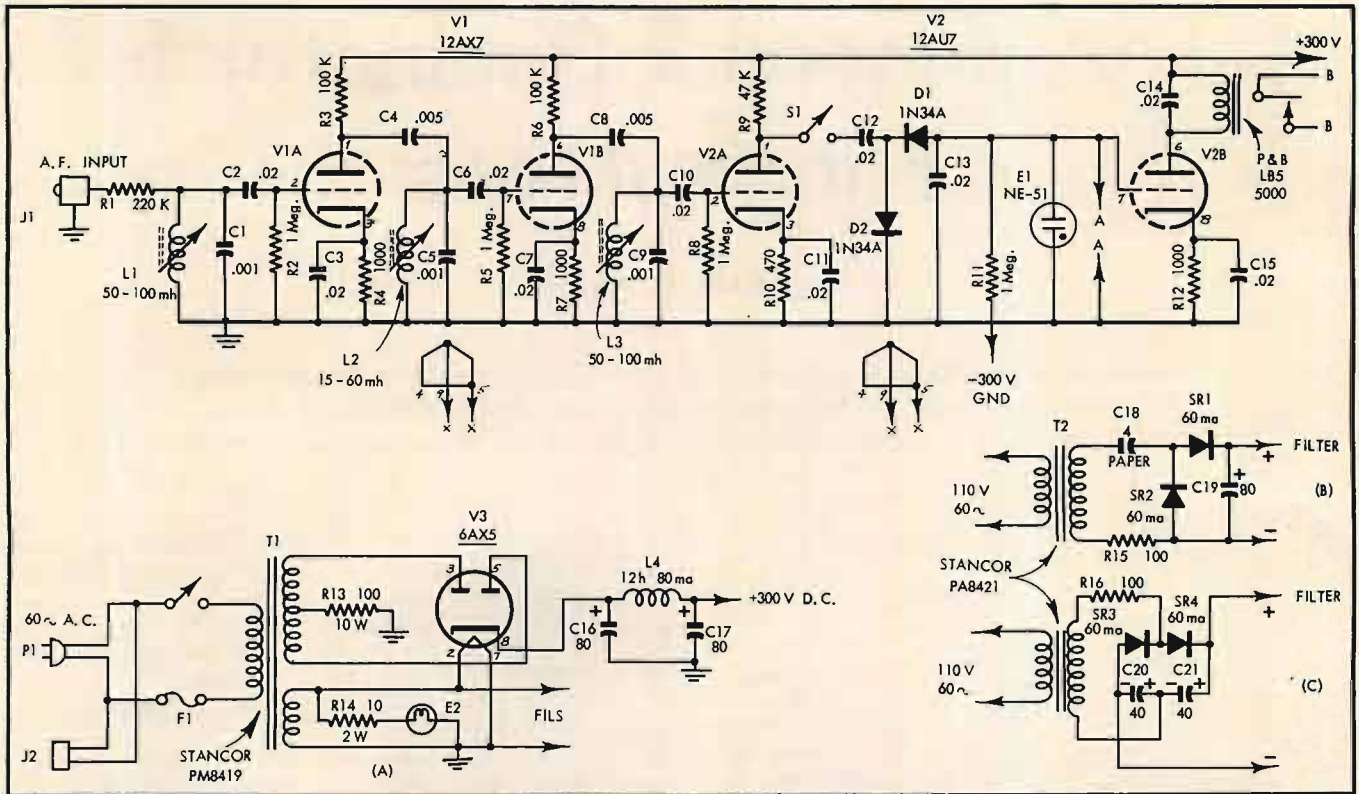

Fig 2. Circuit of sensitive 20-kc selective amplifier, with two output modes and three optional power supplies.
Circuit of this selective amplifier, with alternative output modes, and two alternative power supplies, is shown in *Fig. 2*. Several other rather obvious alternatives can be used without impairing operation of the device, which has no critical adjustments except tuning.
Power-supply requirement is approximately 6.3 volts at 0.8 amperes for filaments and pilot and 300 volts at 20 ma for plates. This can safely be "robbed" from many receivers. Where this is not possible or desirable, a separate power supply must be provided. That shown at (A) in *Fig. 2* works excellently, but is much larger than necessary. Alternative plate circuits shown at (B) and (C) work well, and not only use an electrically smaller transformer, but also generate much less heat. An electrolytic capacitor can be used in place of the 4 μf paper capacitor shown at (B), but a larger capacitance is usually necessary,
Construction is entirely straightforward, and not only requires no special techniques, but component arrangement can be modified to suit individual conditions and tastes without affecting performance. The model illustrated, which has both bias and relay outputs, and an oversize power supply, was constructed on a 7" by 12" by 2" Seezak chassis. With single output mode and either of the alternative power supplies shown in Fig. 2, a chassis 5" by 9" by 2" will be more than adequate.